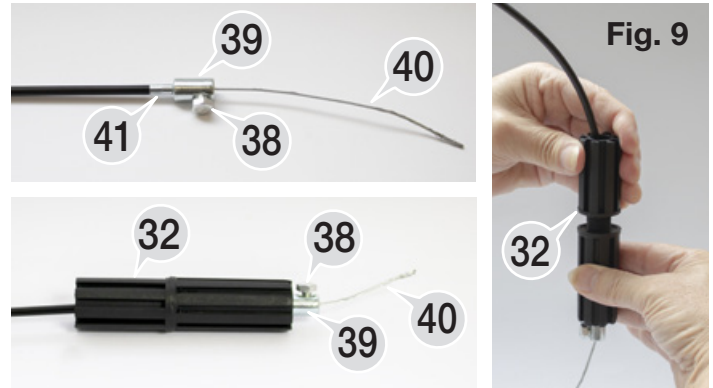

Fig. 9
- Unscrew the hand grip "32" (fig. 9) to release the motor.
- Rotate the crown wheel "27" through 180° to gain access to the second fastening hole. If the crown wheel doesn't rotate, make sure you have followed the paragraph "Manual release cable installation" on page 7 and you have unscrewed the hand grip "22" as shown in fig. 9.
- Block the geared motor by screwing the hand grip "32" as shown in **fig. 9**.